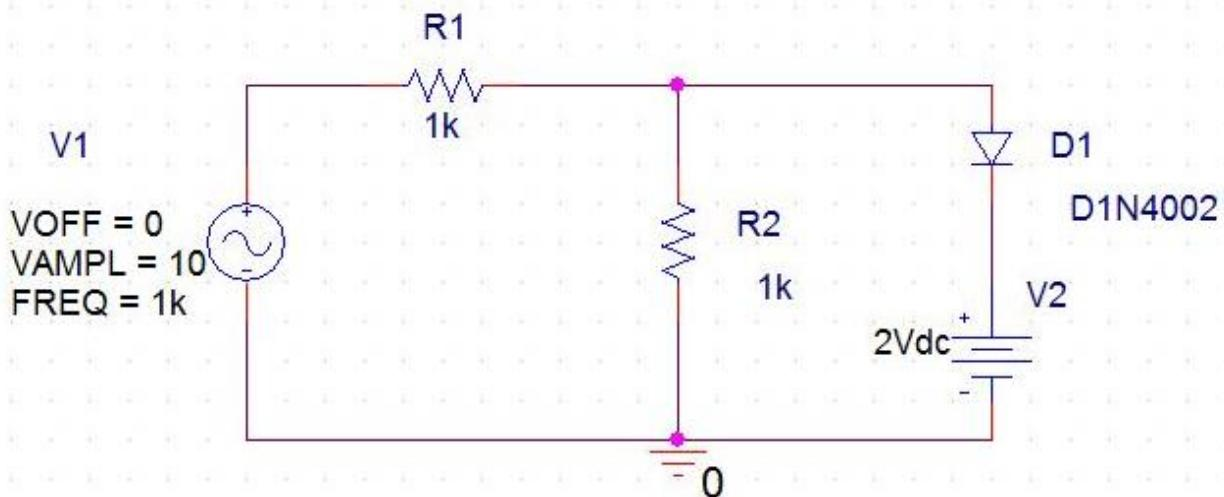

Figure 2A_1 – Limiter Circuit
(Figure 2A_1)
- Use the following simulation settings as shown in figure 2A_2 to simulate your circuit.
(Figure 2A_2)
(Figure 2A_3)
- Draw the circuit as shown in figure 2A_1.
- d. Simulate the circuit at different values of V₂ (DC Source given in figure 2A_1). Observe the difference in waveforms.
- e. For the circuit given in Figure 2A_1, draw the transfer characteristic curve with V_{out} on y-axis and V_{in} on x-axis. This can be done by using DC Sweep simulation profile. It is left for the students to make the simulation profile settings themselves and observe the results.
7. In this part of the exercise, you must simulate the circuit provided in figure 2A_1 but it should clip positive peak at +1.5V and negative peak at -0.2v. The procedure for doing the exercise is the same as described in part A of exercise
11. The following procedure should be adopted while practical implementation of the circuit given in figure 2A_1: